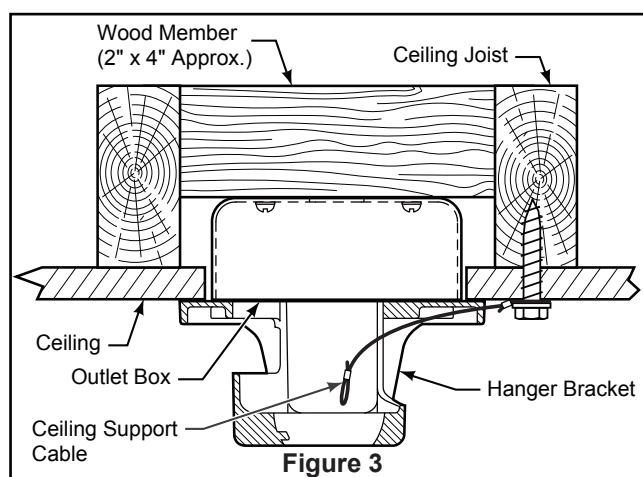

Figure 3
Your new ceiling fan will require a grounded electrical supply line of 120 volts AC, 60 HZ, 15 Amp Circuit. Electrical code requires use of a fan-rated outlet box to support the extra weight and motion associated with a ceiling fan. A fan-rated box will be labeled as such and typically supports up to a 70lb ceiling fan. Fan-Rated Outlet Boxes vary in ratings and design. Ensure the ratings of your ceiling fan outlet box meet the requirements for the ceiling fan being installed. Figure 1, Figure 2 and Figure 3 depicts different structural configurations that may be used for mounting the outlet box.
Deep box with brace (Figure 3)
3. Loosen the two set screws and locking nuts in the downrod support of the motor assembly. Route the black, white, blue wires and safety cable through the downrod. (Figure 3)
1. Securely attach the hanger bracket to the outlet box using the outlet box screws and washers supplied with the outlet box. (Figure 3)
2. Drill a 1/4" pilot hole into the building structure to prevent splitting or cracking with installation of the lag bolt. Using the 3/8" x 2" lag bolt and flat washer, attach safety cable to ceiling joist or wood structural member. The lag bolt will pass through the flat washer, safety cable loop, and into the building structure. (Figure 3)
NOTE: Ceiling support cable cannot be secured to outlet box only, it must be directly secured to ceiling joist or structural member using the 3/8" x 2" lag bolt and flat washer. (Figure 3)
2. Slide the receiver into the hanger bracket before wiring as shown in figure 3.
3. Assemble the light kit assembly to the adaptor plate of the motor assembly using the previously removed screws and securely tighten all three screws. (Figure 3)
3. To make fan operational, install 23A/12V battery (included) in hand-held remote transmitter, with fan power off. Then follow the remote code setting process. (If not used for long periods of time, remove battery to prevent damage to transmitter). Store the remote away from excessive heat or humidity. (Figure 3)